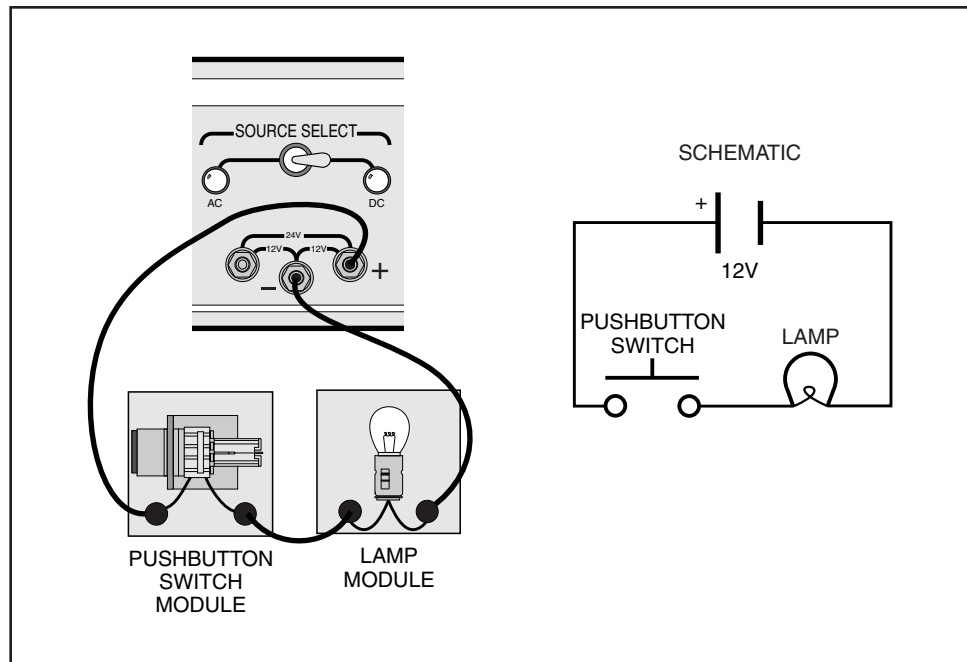

Figure 3-3. A Schematic Diagram and Pictorial of a Circuit with a Pushbutton Switch and a Lamp
- ❑ 8. Connect the circuit represented by the schematic diagram in figure 3-3.